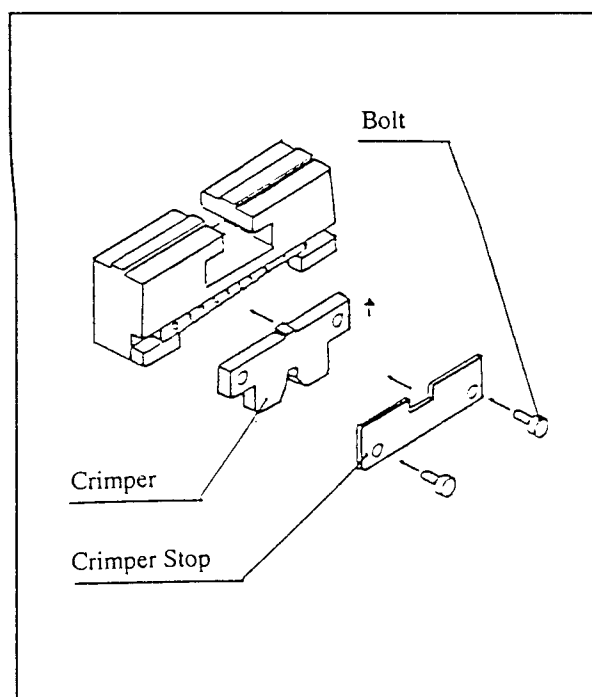

Fig.7
- (1) Remove the two (2) bolts as shown in Fig.7.
- (2) Remove Crimper Stop and Crimper.
- (3) Install a new Crimper and the Crimper Stop then tighten the bolts while pushing up Crimper.